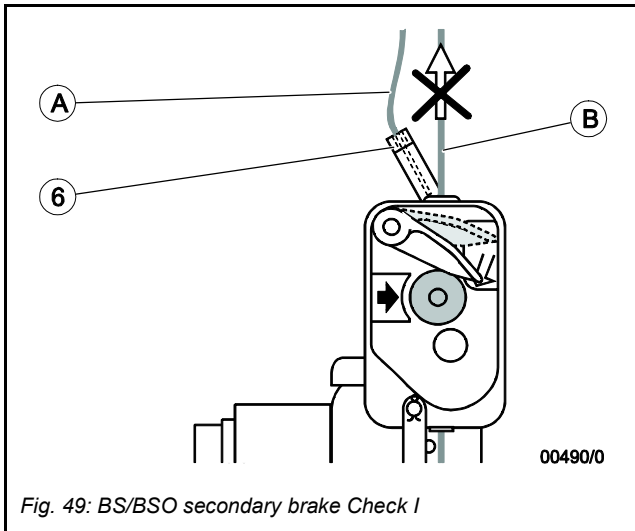

Fig. 49: BS/BSO secondary brake Check I
- (1) At ground level push DOWN button to get slack primary wire rope (A) – release lever (6) tilts to the side to close BS/BSO secondary brake for the secondary wire rope (B) (Fig. 49).
- (2) With gloved hands try to pull the secondary wire rope upwards: it must be impossible.